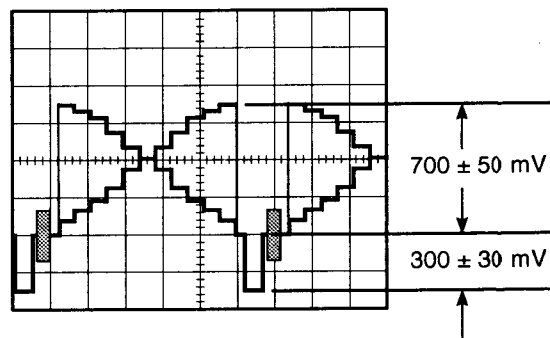

Fig. 5-30
- Confirm that the Video signal becomes 700 ± 50 mV as shown in Fig. 5-30.
- If not, adjust data with the **ARROW** keys so that the Video signal level becomes 700 ± 50 mV as shown in Fig. 5-30.